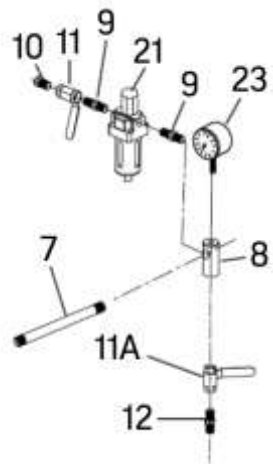

Fig. 2
4. To assemble the air inlet assembly, accomplish the following (Fig. 2):